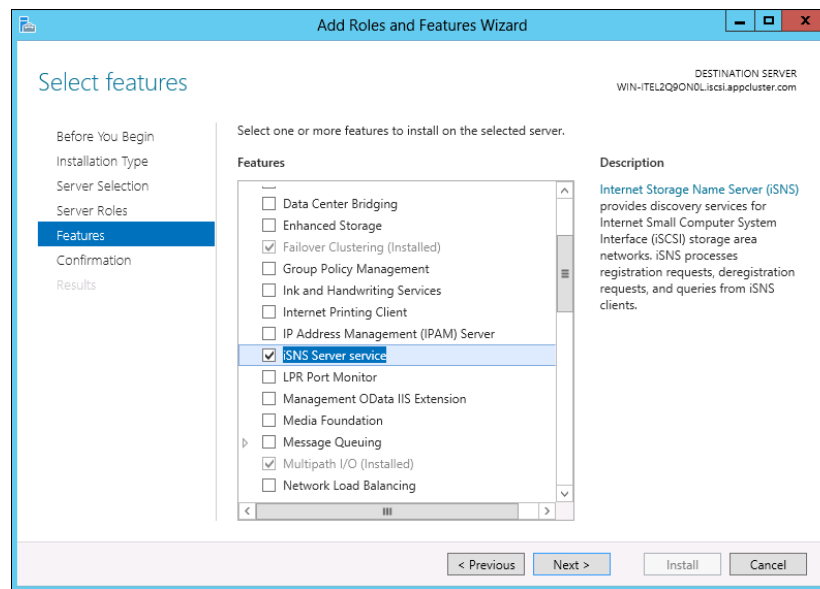

Figure 7-55 Adding the iSNS Server service feature
3. Select **Internet Storage Name Server** and click **Install**, as shown in Figure 7-55.